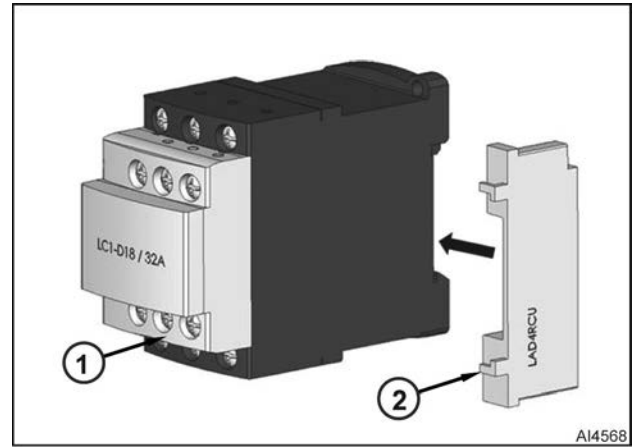

Fig. 19
3. Remove anti-interference filter (2, Fig. 19) from contactor (1, Fig. 19).